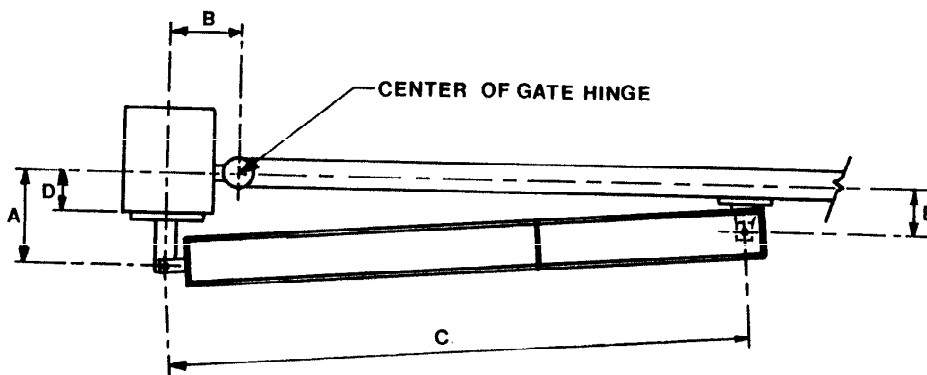

Figure 4. An inward swinging gate, top view: important mounting dimensions
Attach the rear mounting bracket according to the dimensions in Figure 4.
**WARNING!** You must achieve the A and B dimensions, as specified in Figure 4. Modification of the rear bracket may be necessary to achieve these dimensions (i.e., cutting or extending the bracket provided)